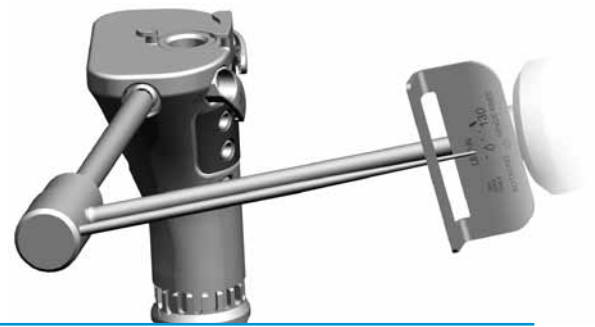

Fig. 40
- Use the Screw Driver (4.5mm) and the Torque Wrench (blue-handle) to remove the Set Screws from the medial and lateral sides of the device (Fig. 40).